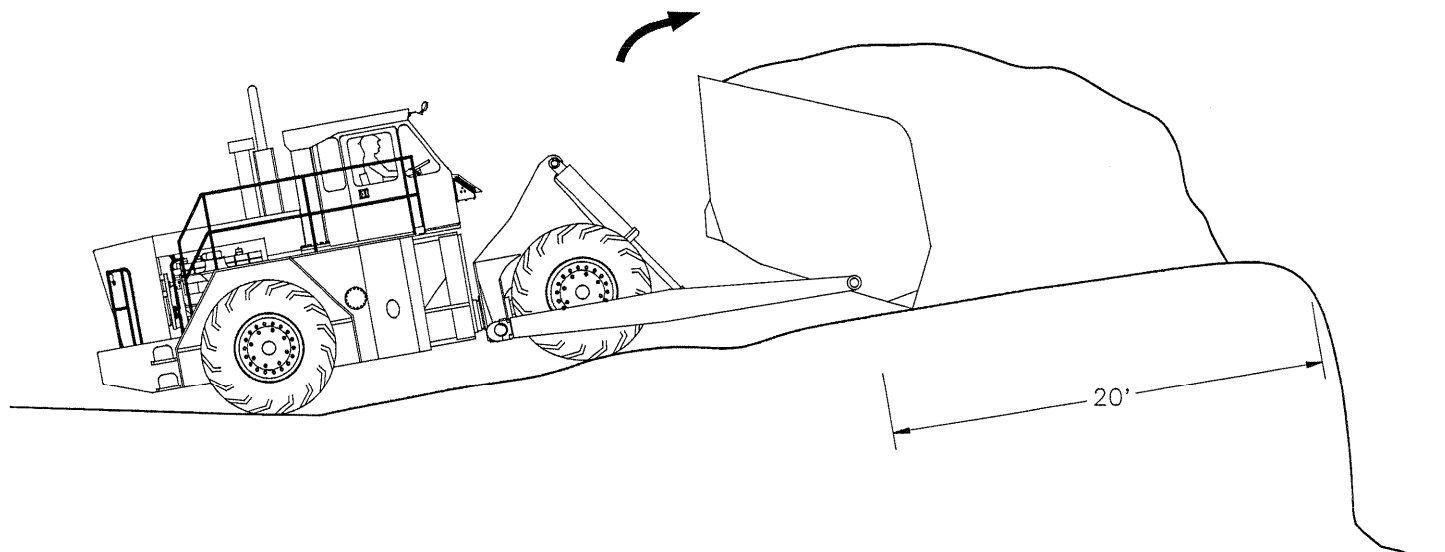

Fig. 4-6
1. Start to hoist and dump a load approximately 20 feet from the reclaim infeed or the edge of the pile. Spending less time at the reclaim will increase the cycle time. This will also reduce the chance of slipping into the reclaim. See Fig. 4-6.